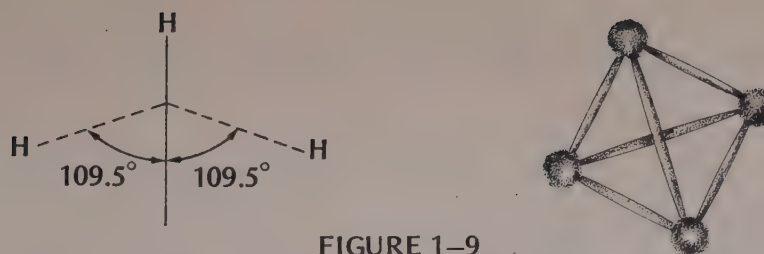

FIGURE 1-9
3. To get a better feel for the tetrahedral shape, construct a tetrahedron. Use six toothpicks to represent the edges of the tetrahedron; use four small clay spheres to form the corners. (See Figure 1-9.) Examine the tetrahedron. Note that there are four vertices and four sides; each side is an equilateral triangle. Using toothpicks, build a model of methane by attaching four small white Styrofoam balls (representing hydrogen) to a larger black Styrofoam ball that represents carbon. The hydrogens should be placed around the carbon so that they form the corners of a regular tetrahedron; the carbon should be at the center of the tetrahedron. The H-C-H angle in each case is about 109° , the tetrahedral angle. Using a protractor,